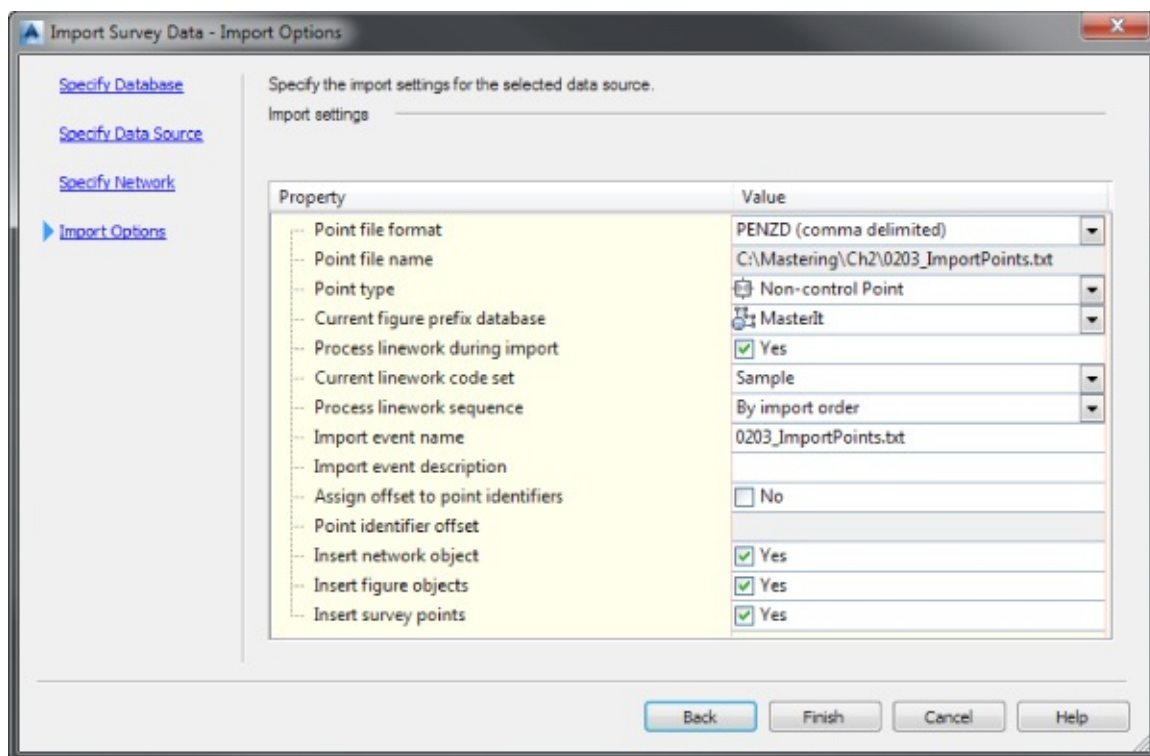

Figure 2.16 The Import Options page in the Import Survey Data Wizard
15. Set Current Figure Prefix Database to Mastering Civil 3D. Set the Process Linework During Import option to Yes. Be sure Insert Survey Points is set to Yes. When your import options match what is shown in Figure 2.16, click Finish.